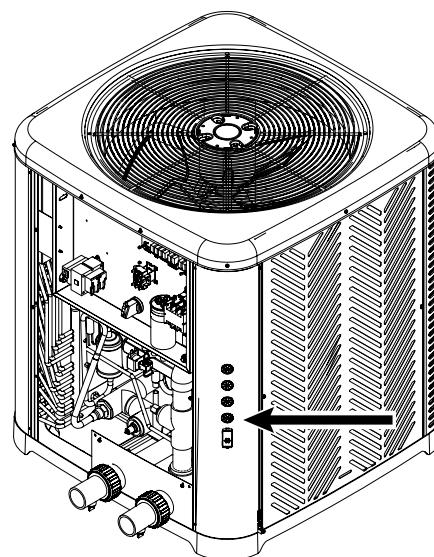

Figure 133. Use the Grommets
5. Use the grommet(s) to run the control and/or power wires from the external device(s) to the heater control box. See Figure 133.